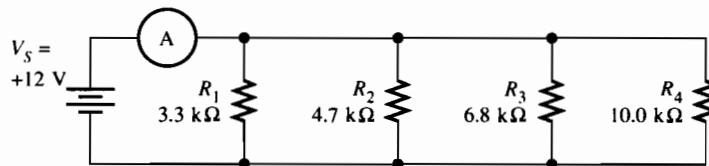

Figure 9-4
- Complete the parallel circuit by adding the voltage source and the ammeter as shown in Figure 9-4. Be certain that the ammeter is connected in series with the voltage source as shown. If you are not sure, have your instructor check your circuit. Measure the total current in the circuit and record it in Table 9-2.